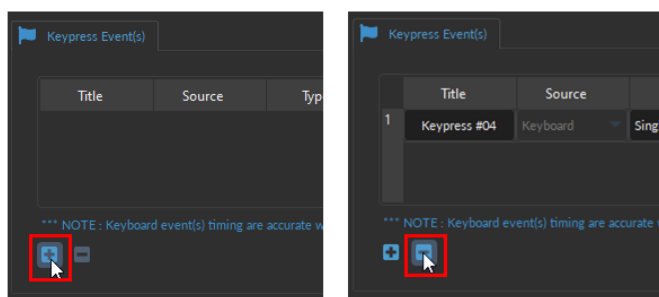

Figure 6.11: Adding and Removing Keypress Events
To add a new **Keypress Event**, select the + sign at the bottom of the window (Fig. 6.11, left). To remove a Keypress, use the - button (Fig. 6.11, right).
- **NOTE:** Selecting the + button (without clicking the *Add* or the *Close* buttons of the *Channel Configuration* window) will **automatically** add the Keypress Event channel at the **bottom** of the Acquisition View window, below the video feed (Fig.6.11).